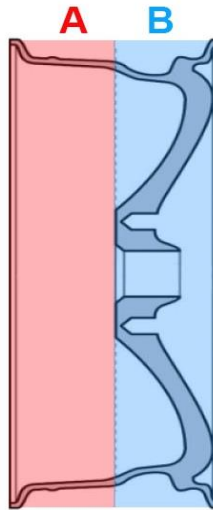
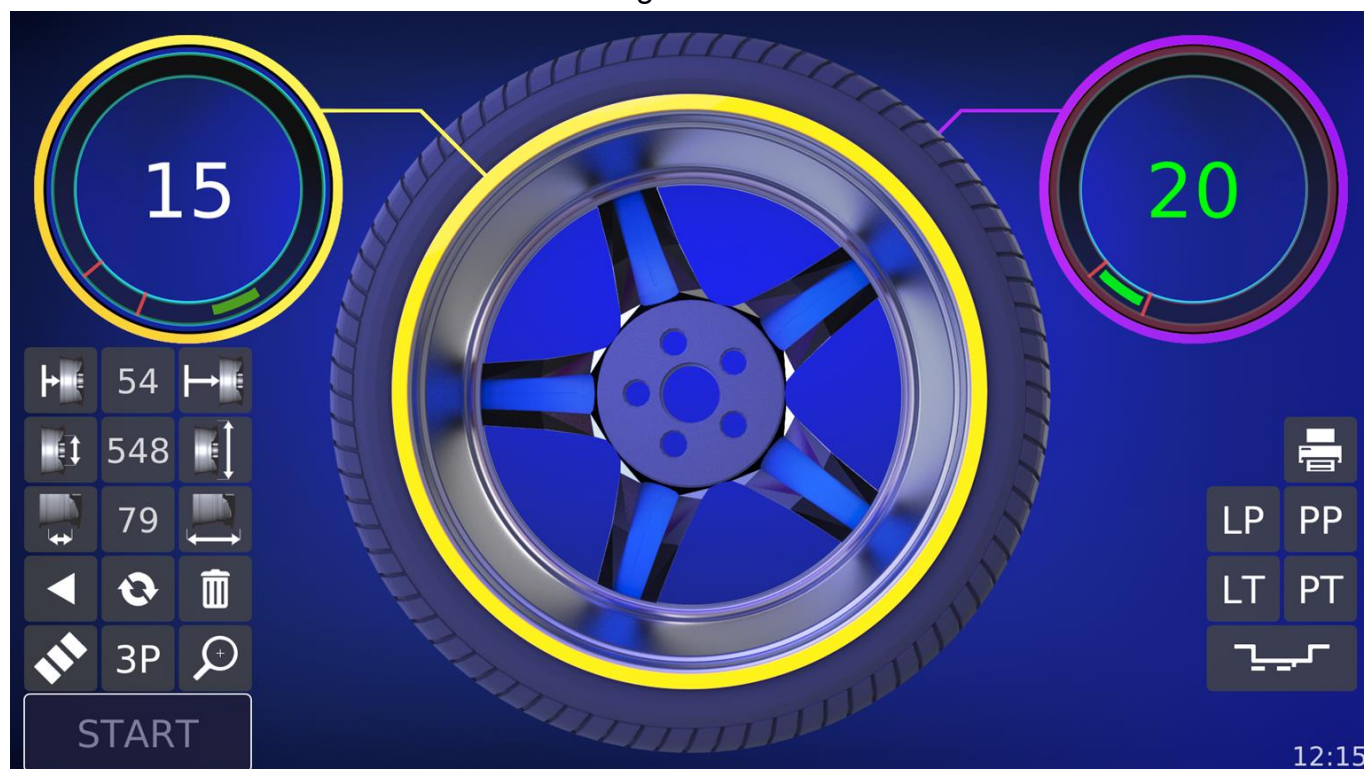

Fig. 17: Weights fastening zone
Fig. 20: Exemplary screen after the measurement
Additionally, the print icons on the right side may be displayed on the screen. They are active only when printing is enabled in the settings. See the chapter PRINTING for a description. A field below the print icons is empty in Figure 16 and shows the weight distribution icon in Figure 20. This field appears after taking the measurement with the measuring arm or pressing the button , erase by pressing  and shows the selected weight fastening mode.
To measure with the measuring arm, extend the arm so that the laser starts displaying a line and a dot on the rim. Regardless of whether the weight in space A from Figure 17 is to be clipped-on or taped-on - the laser dot of the arm is connected to the line **at the place of the planned weight attachment**. For clipped-on weights the dot should be aligned with the line on the left edge of the rim, as shown in Figure 18a. In the case of taped-on weights the dot should be placed on the line in the place where the weight is glued, as shown in Figure 18b.
After setting the laser in the appropriate position you need to wait about 2 seconds until the machine save the entered parameters. After the signal the second measuring phase begins with the measuring arm which will allow to determine where the weight for space B of the wheel from Figure 17 will be mounted. If weight is attached to the outer zone B (Figure 17) (not in the center of the rim but on its right edge) put the measuring arm in its place to the zero position. This is the
If the weight is to be mounted in the center of the rim in area B from Fig. 17, after saving the first measurement, insert the measuring arm inside the wheel. This will cause the wheel width to begin to change as the arm continues to move towards the center of the rim. After setting the arm head in the position directing the dot to the line, wait approx. 2 seconds until the machine emits a sound signal and records the result.
- a weight mounted in the center of the rim in area B from Figure 17,
If we want to hide the weight so that it is not visible after putting the wheel on, we can break it into two weights, which will be placed in places not visible from the outside - behind the rim spokes. Program 3P is active in dynamic mode and related to the right unbalance in zone B from Figure 17 for a point defined inside the rim or in static mode for a single point.
Activate the program by pressing **3P**. It always appears when the correction point in zone B from Figure 17 is defined inside the rim or when we measure in static mode. The minimum unbalance value for which the hidden weight option is activated is 7.5 g. An exemplary screen after the measurement has been made is shown in Figure 20.
We start the optimization by measuring the imbalance of the rim itself (without the tyre). Place the rim in the holder with the valve on the holder marker (3 in Figure 3) so that in the second run (after installing the tyre on it) you can mount the wheel in exactly the same way. Using the measuring arm indicate the point on the inner edge of the rim (space A in fig.17), close the hood, select **START**. The optimization has been measured by using the rim width determined from the indicated point and from the ultrasound measurement performed when closing the hood. In case of optimization the entry of the second point inside the rim is blocked.